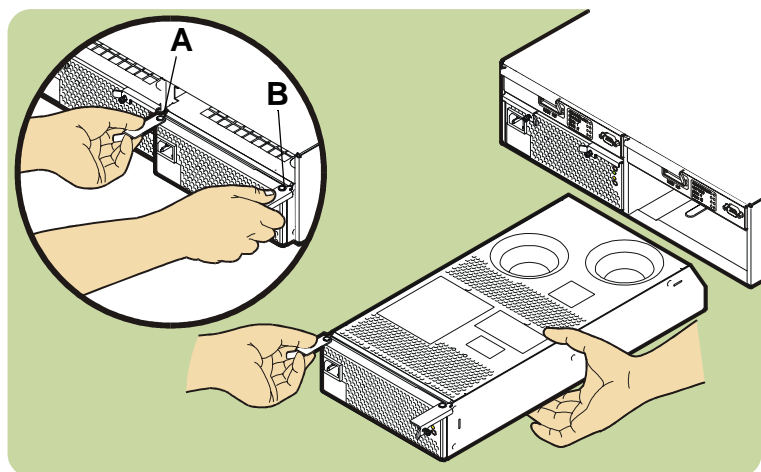

Fig. 9. Removing a power module
6. Loosen the captive screws on the power modules and remove the power modules (see Fig. 9, A and B).